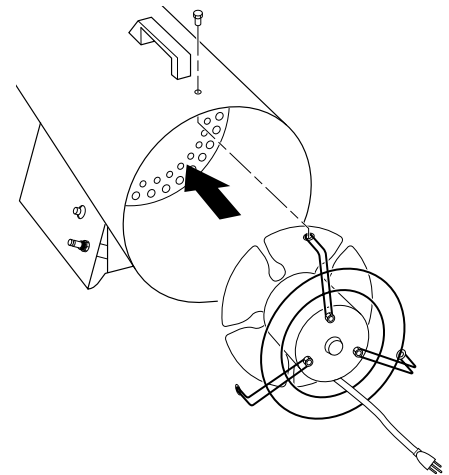

Figure 10 - Replacing Motor and Fan Guard into Heater
9. Place motor and fan guard into rear of heater shell. Make sure power cord is properly located (See Figure 10).